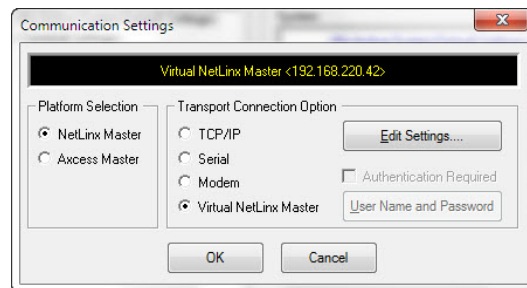

FIG. 27 Communications Settings dialog box
2. Click the **Communications Settings...** button to open the *Communications Settings* dialog box (FIG. 27).